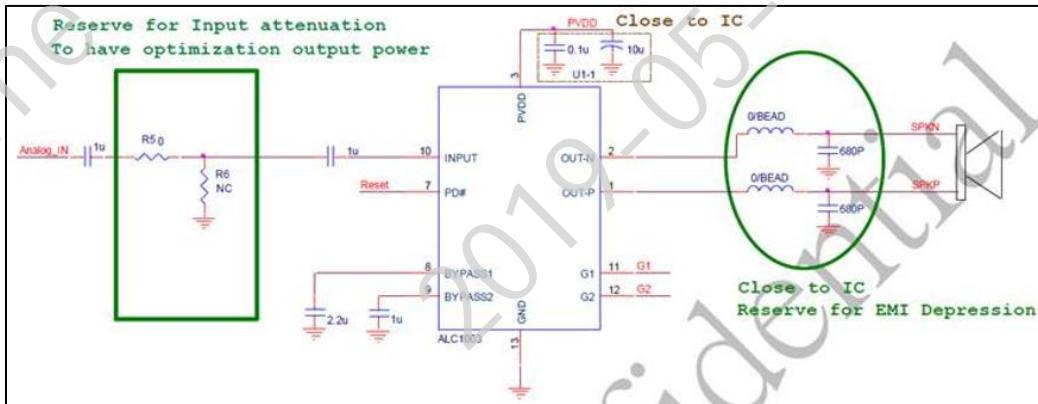

Fig 23-17 Reference design of using D type power amplifier
- If it's a D type amplifier, refer to the design shown in Fig 23-17 (ALC1003).
- 当您使用 D 类功放时，请参考 Fig 23-17 设计(ALC1003)。